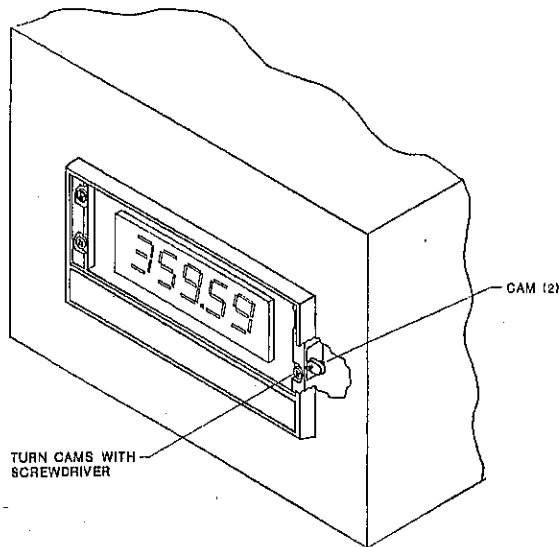

Figure 2-3. Installing Model 801
- c. Retract cams to their disengaged position using a Phillips head screwdriver (figure 2-3).